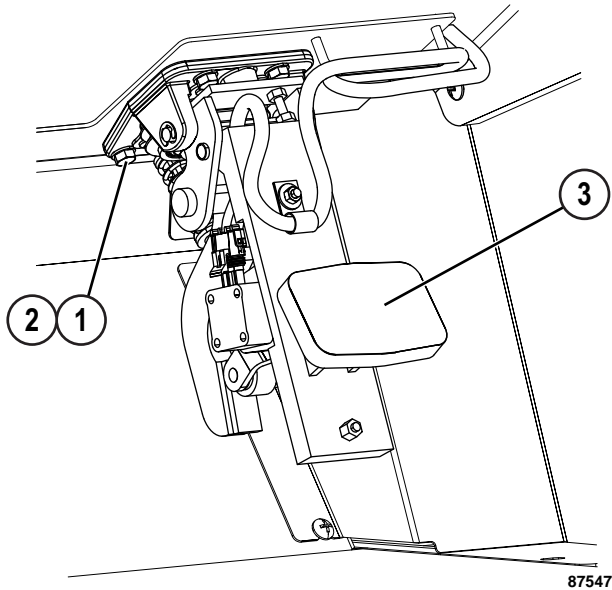

FIGURE 50-3. BRAKE VALVE REMOVAL & INSTALLATION
6. Remove capscrews (1, Figure 50-3) and lockwashers (2) that secure brake valve/pedal assembly (3) to the cab.
1. Slide brake valve/pedal assembly (3, Figure 50-3) into position in the cab and secure it with capscrews (1) and lockwashers (2). Tighten the capscrews to the standard torque.